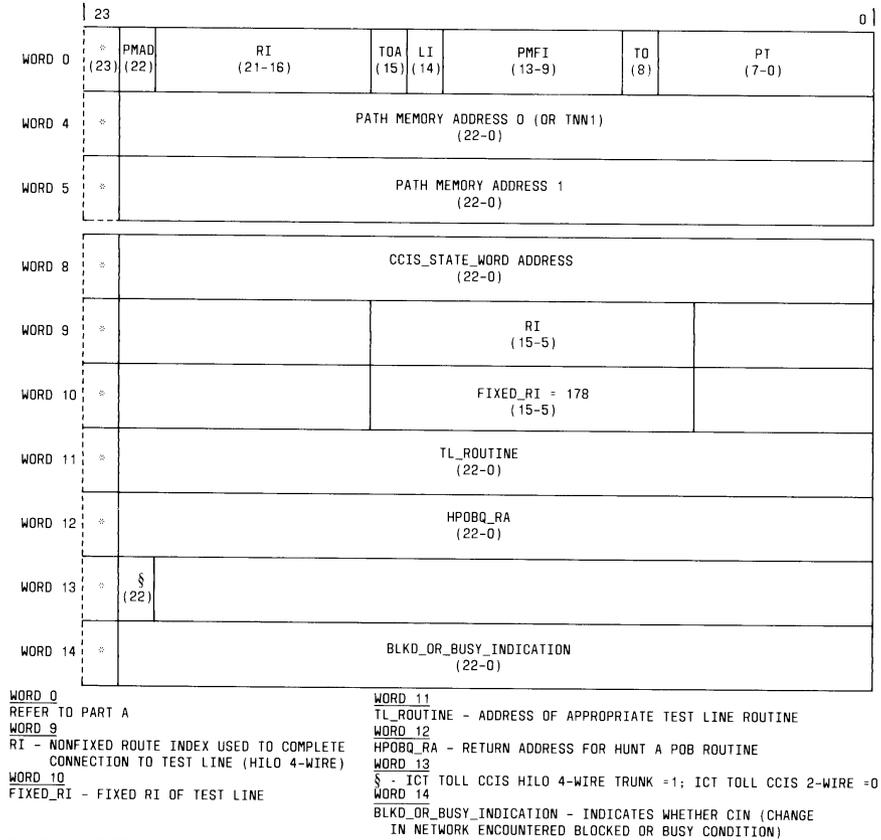

Fig. 9—Layout of Incoming Trunk Test Register (Sheet 2)
4.08 Incoming trunk test registers (ITTRs) are required for processing certain trunk test calls. Refer to Fig. 9 for the layout of the registers for the 108TL feature.